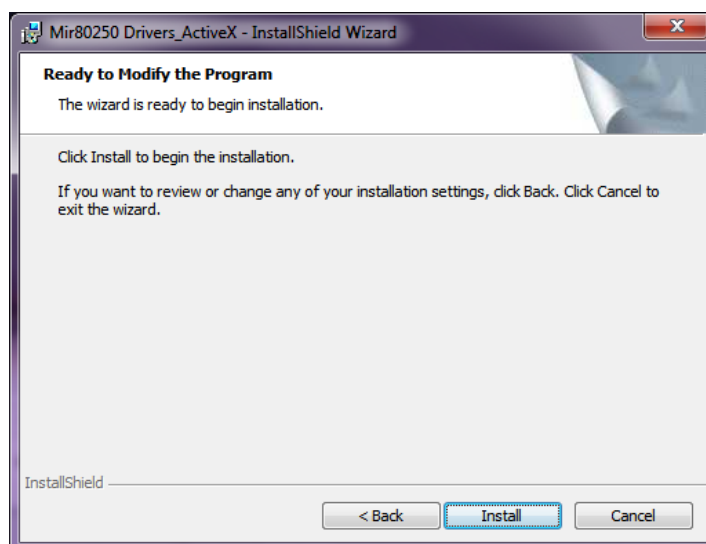

Figure 15: Run Active X Installer
7. Click “Next” as shown in Figure 15 to being running the installer.